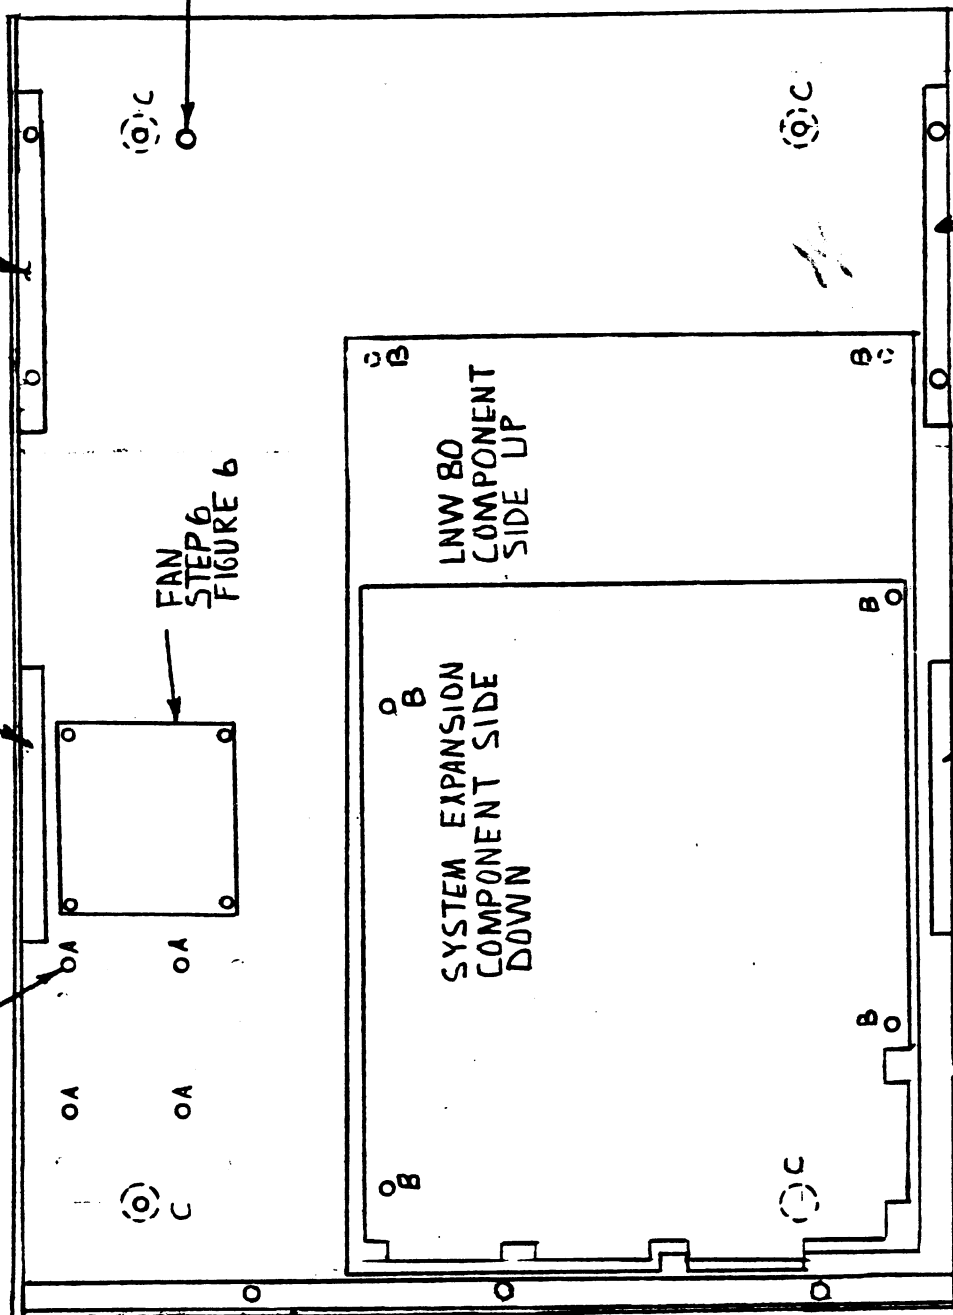
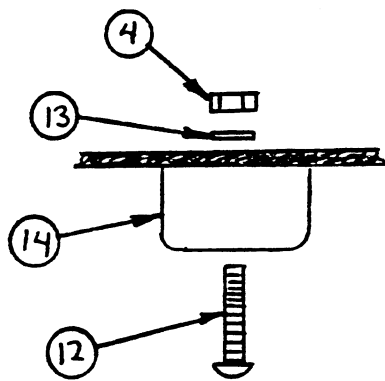
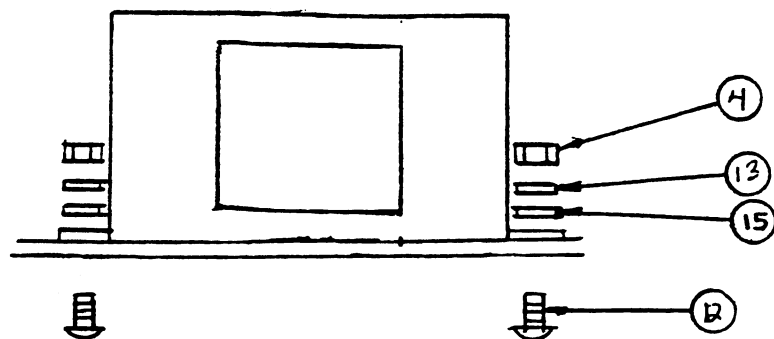

FIGURE 3
FIGURE 4
FIGURE 7
- Step 3 - Install the rear panel as shown in figure 3 using #6-32 x 3/8 screws, #6-32 nuts, and lockwashers.
- Step 4 - Install rubber feet as shown in figure 4 at the locations indicated by "C" in figure 3.
- Step 5 - Install the Keyboard support screw as shown in figure 5 at the location in figure 3. Adjustment is made by screwing the fiber standoff until the keyboard (once installed) is level and supported by this screw. Tighten the nut against the fiber standoff without moving the standoff.
- Step 6 - Install the fan as shown in figure 6 at the location shown in figure 3. The hole spacing is designed for a fan with 2.8" x 2.8" hole spacing. If you use any other fan you may need to redrill the mounting holes. A fan is recommended. Mount the standoffs to the fan first.
- Step 7 - Install the transformer as in figure 7 at the location indicated by Figure 3. The hole spacing is designed for the LNW80 transformer. If you use a transformer other than the LNW80 transformer, you may need to redrill the mounting holes.